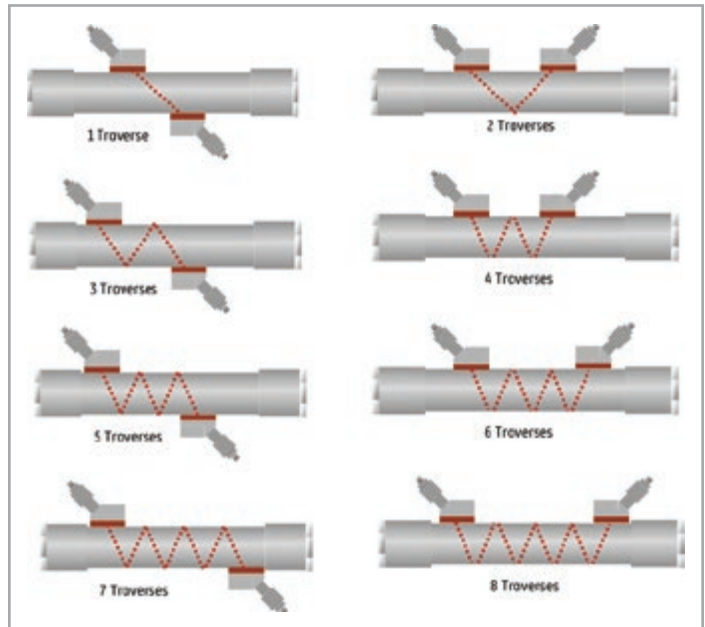

Figure 73: Traverse configurations
2. Program the [No. of Traverses] based on your transducer installation and transducer configuration. Refer to Figure 73 for possible Traverse configurations supported in the meter. Typically, a two-traverse installation is used.